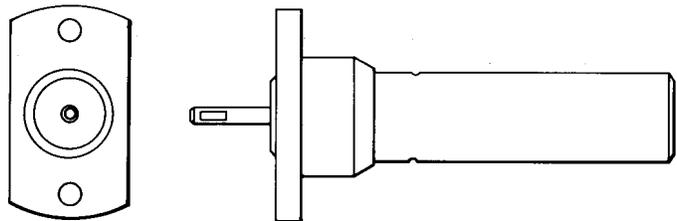

Fig. 10—510A Plug
**2.09 510A:** The 510A plug (Fig. 10) is a single coaxial-type plug having coaxially arranged inner and outer contacts. The 510A plug mates with the 612A and similar-type jacks at one end, and the other end is arranged for solderless wire connection. The 510A plug is not intended for termination of a coaxial cable and is used on the L5 hybrid transformers.